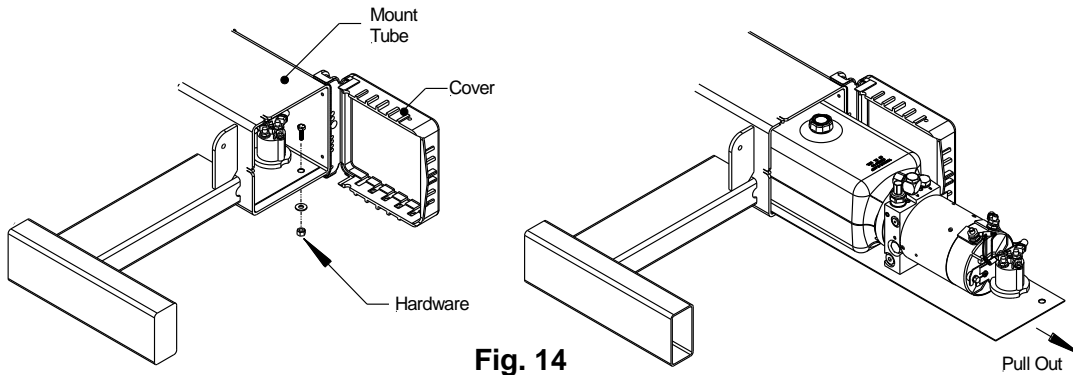

Fig. 14
4. Pull out the power pack tray approximately 20" out of the mount tube by removing the bolt on the curbside and detach the ground strap and control power connector from the tray, **Fig. 14**. Disconnect hoses, if necessary, to pull out tray far out. Verify hoses and cables are not in contact with the inside walls of the tube prior to welding.